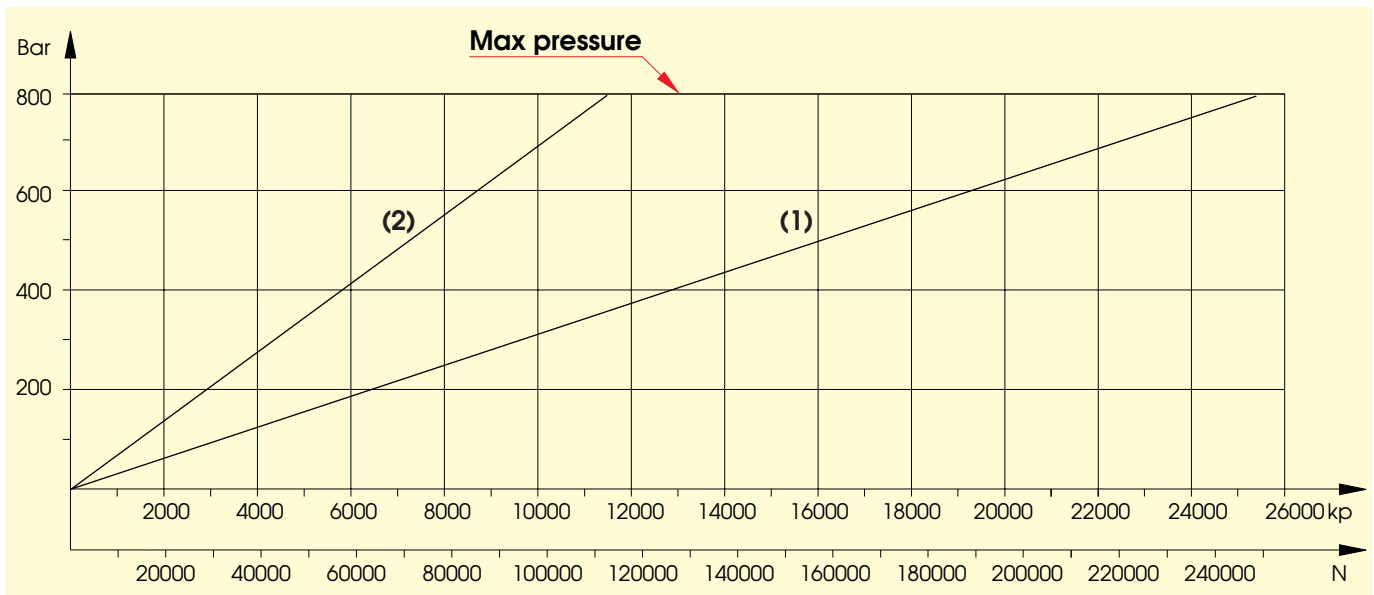

Fig 07-25
The effective area of the piston is  $32,2 \text{ cm}^2$  which gives the following relation between pressure and force (using tool 2V83E0186), see Fig 07-25, (1)
In the previous tool (marked with 3V83E0061) the effective area of the piston is  $14,42 \text{ cm}^2$ . The relation between pressure and force is shown in Fig 07-25, (2).